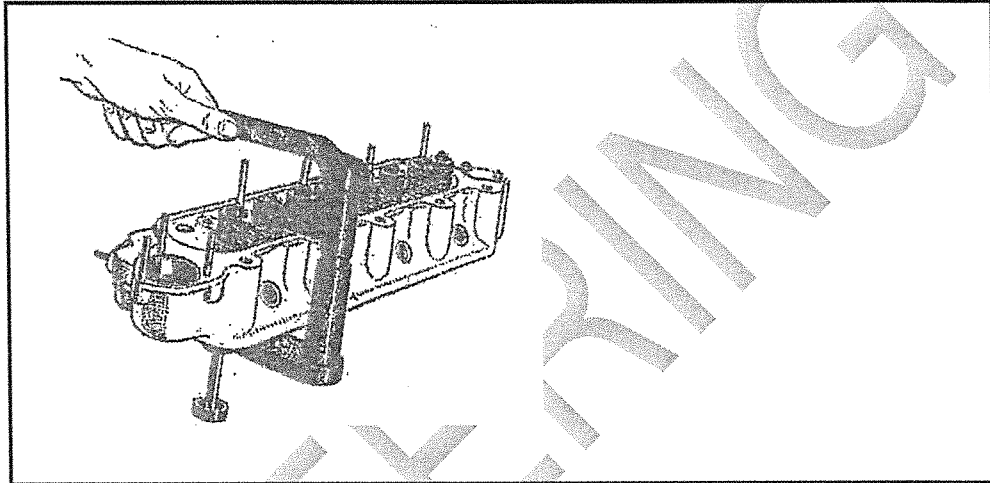

FIGURE 5
- 5.5 FIGURE 5 below shows various tools used in the workshop.